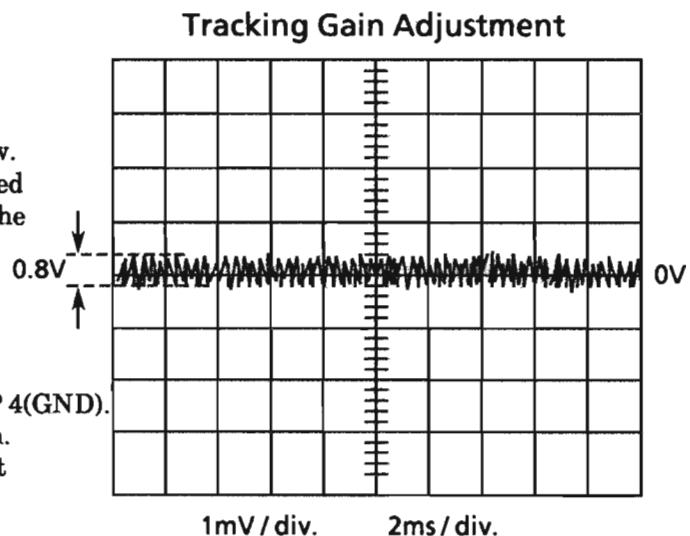

Figure 3
- Adjust R704 (T.GAIN ADJ.) so that the correct waveform as shown in figure 3 is obtain.